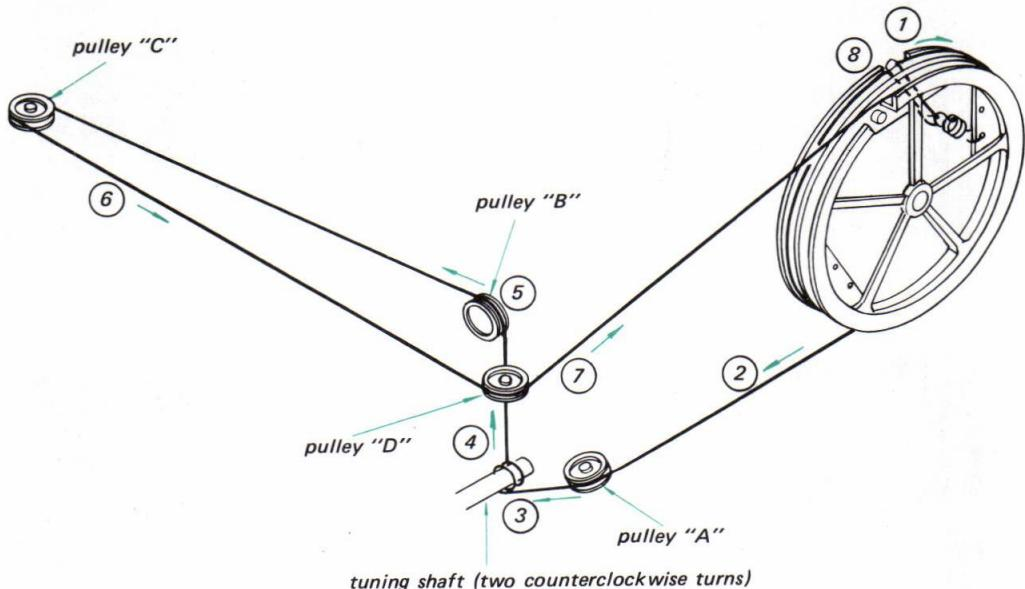

Fig. 2-7. Dial cord stringing
- While referring to Fig. 2-7, proceed as follows: